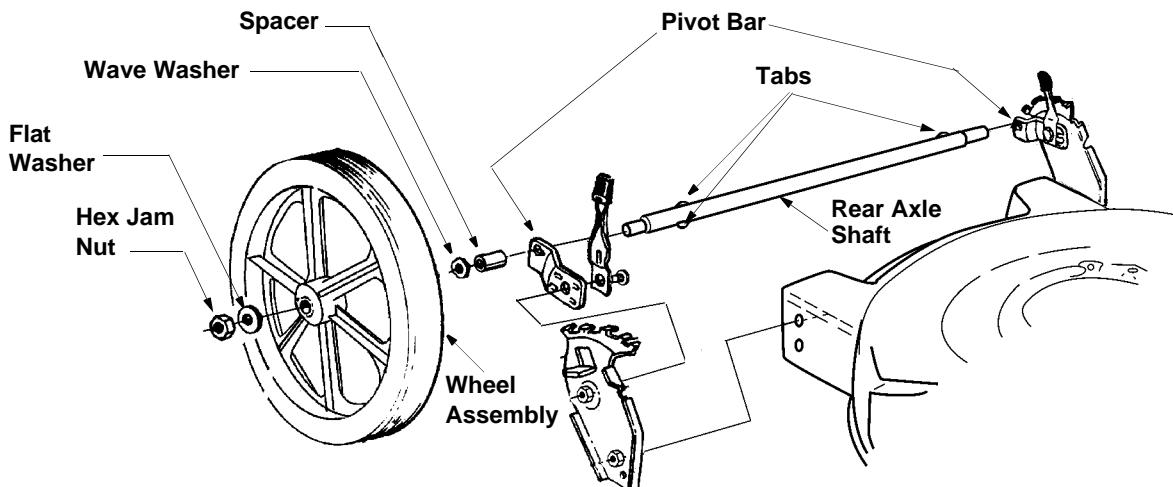

Figure 8
- Note that the right side of the axle shaft has two tabs and the left side has one tab only. See Figure 8. Identify the right and the left side of the rear axle shaft before proceeding to install.
- Slide the left side of the rear axle shaft through the right pivot bar as shown in Figure 8.
- Insert a spacer and a wave washer on the axle shaft followed by wheel assembly, flat washer and a hex jam nut. See Figure 8. Tighten securely.